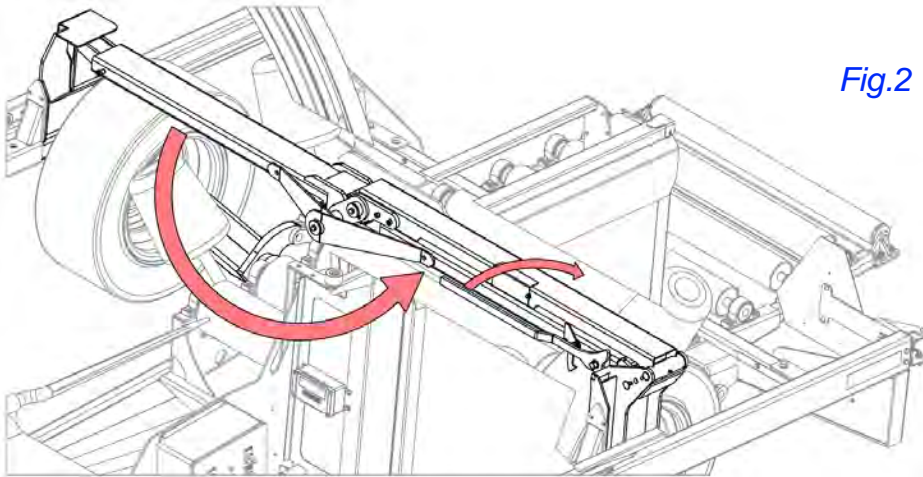

Fig.2
4. Raise dispatch arm to folded position with handle and lock latch if starting a new row. See Fig.2.